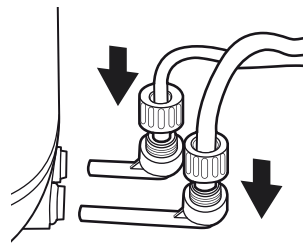

Figure 3.16 – Installing Inlet and Outlet Tubes to Tube Connectors
5. Install the end of the larger (12.7 mm / 1/2 inch outer diameter) inlet tube to the larger inlet connector on the filter base. Firmly push the inlet tube end fully onto the barbed fitting. Next, screw the inlet fitting nut onto the connector threads, securing the tube in place. Repeat for the smaller outlet tube (see Figures 3.16 & 3.17).